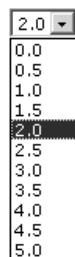

Figure 97. RGB Delay Drop Box
- Click the **RGB delay** Drop box. A drop down scroll box appears (see figure 97).